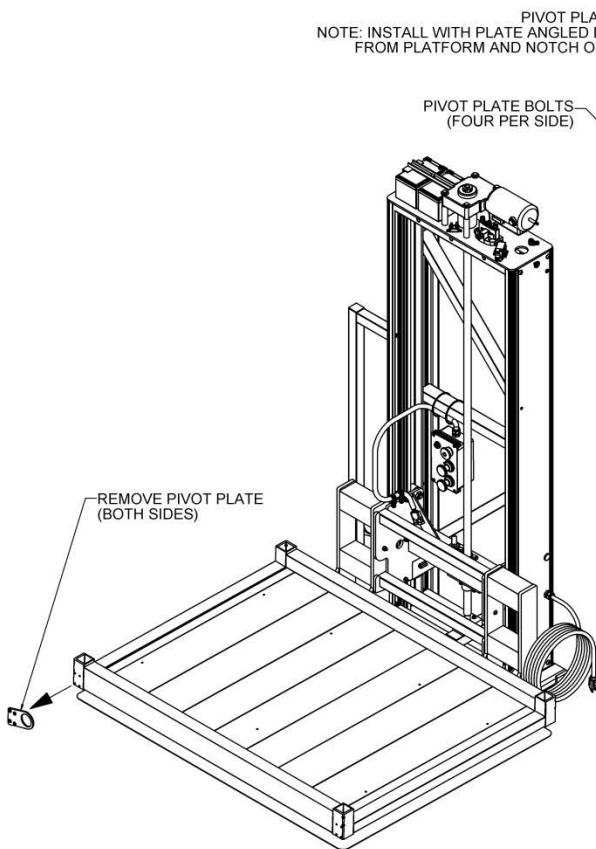
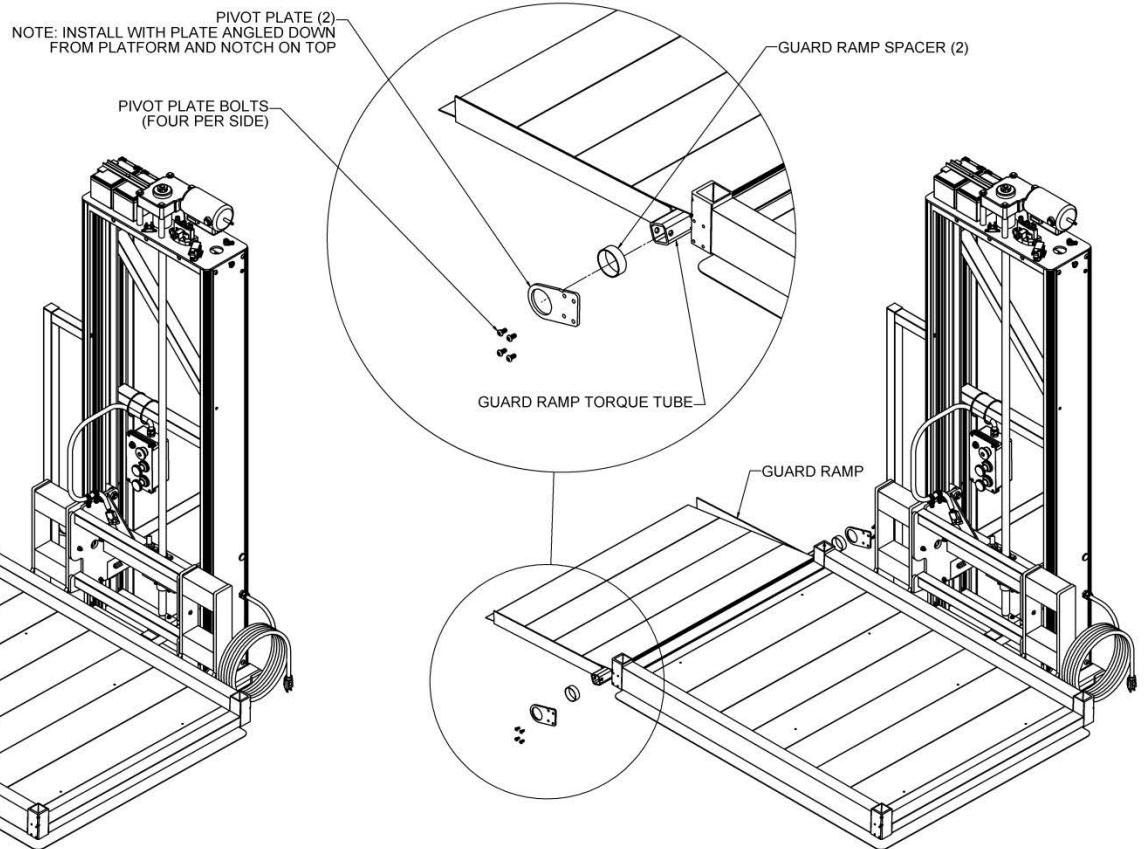

FIG. 4.4a
FIG. 4.4b
6. Remove guard ramp pivot plates (FIG. 4.4a) from the platform. Locate the guard ramp and ramp spacer tubes then slide the pivot plates and spacer tubes over the ramp torque tubes as shown (FIG. 4.4b)